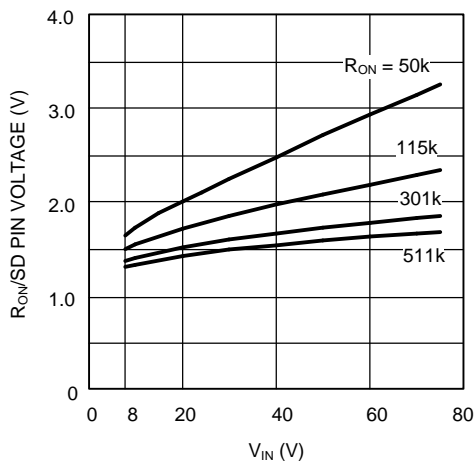
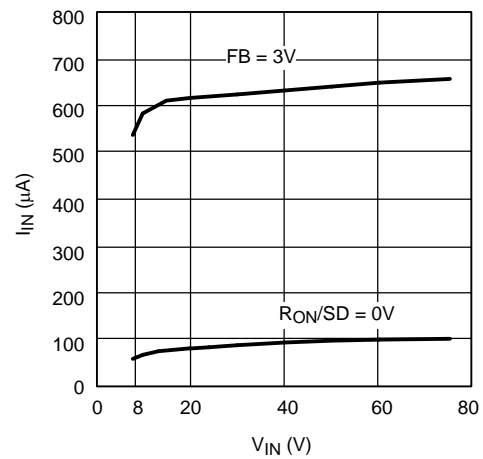
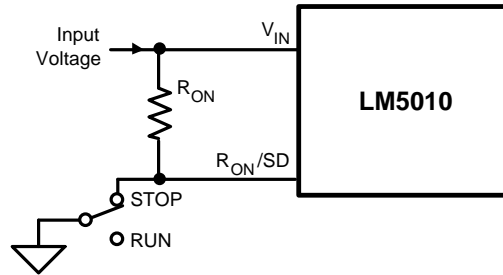

Figure 6. Voltage at  $R_{ON}/SD$  Pin
Figure 7.  $I_{IN}$  vs  $V_{IN}$
Figure 11. Shutdown Implementation
The LM5010 can be remotely shut down by taking the  $R_{ON}/SD$  pin below 0.65V. See Figure 11. In this mode the soft start pin is internally grounded, the on-timer is disabled, and the input current at  $V_{IN}$  is reduced (Figure 7). Releasing the  $R_{ON}/SD$  pin allows normal operation to resume. When the switch is open, the nominal voltage at  $R_{ON}/SD$  is shown in Figure 6.
**D1**: The important parameters are reverse recovery time and forward voltage drop. The reverse recovery time determines how long the current surge lasts each time the buck switch is turned on. The forward voltage drop is significant in the event the output is short-circuited as it is mainly this diode's voltage (plus the voltage across the current limit sense resistor) which forces the inductor current to decrease during the off-time. For this reason, a higher voltage is better, although that affects efficiency. A reverse recovery time of  $\approx 30 \text{ ns}$ , and a forward voltage drop of  $\approx 0.75V$  are preferred. The reverse leakage specification is important as that can significantly affect efficiency. Other types of diodes may have a lower forward voltage drop, but may have longer recovery times, or greater reverse leakage. D1 should be rated for the maximum  $V_{IN}$ , and for the peak current when in current limit ( $I_{PK}$  in Figure 11) which is equal to: